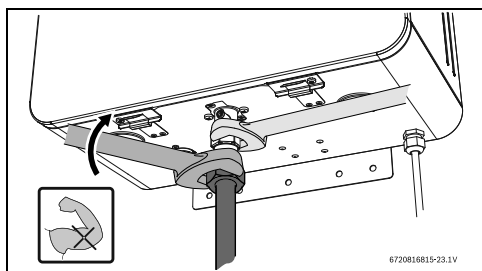

Fig. 24 Tighten gas pipe to the heater
- Tighten gas pipe with the support of a wrench, see fig. 24.